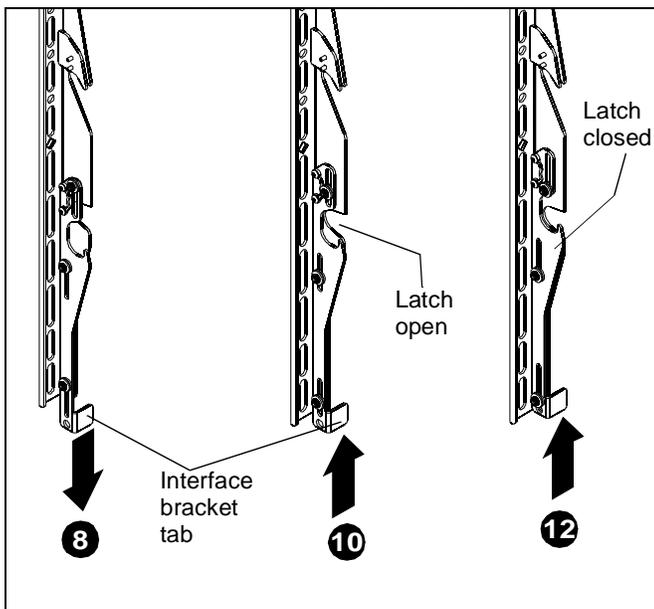

Figure 10
- Push interface bracket tab all the way down so that the lower mounting slot is blocked. (See Figure 10)
- Raise interface brackets tabs all the way to secure the brackets onto the wall mount. (See Figure 10)